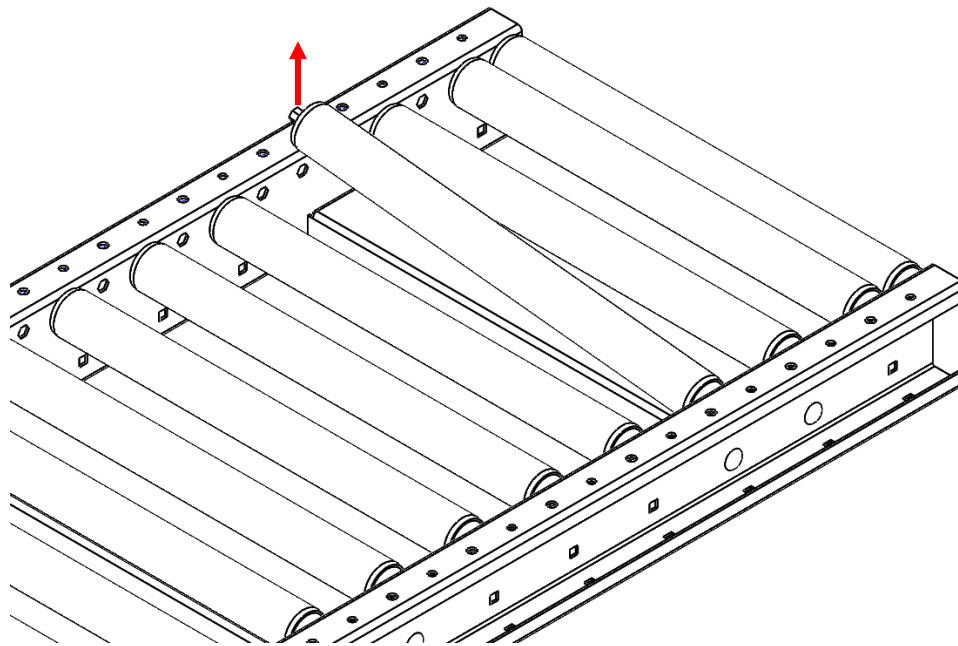

Figure 46: Removing Idler Roller from BRBDC (Belt Hidden)
3. Locate the roller needing replacement and apply pressure on one end of the hex shaft with a small diameter punch or similar tool until the shaft clears the frame (refer to Figure 46).
4. Lift up on the roller body until the hex is sitting above the side frame. Refer to Figure 46 (belt hidden for visibility of rollers). A putty knife or other flat surface tool is recommended to be placed between the hex shaft and the inside of the frame. This will help protect the paint on the side frame.